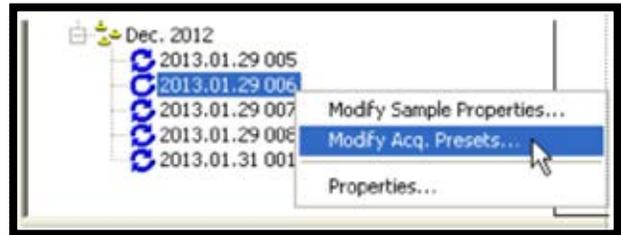

Figure 117. Modify Acq. Presets
- While a count is in progress, locate the desired batch in the Batch Explorer Tree, right-click, and select **Modify Acq. Presets...** (Figure 117). Change the **Live Time** and/or **Real Time** presets as needed, then click **Start/Continue**.